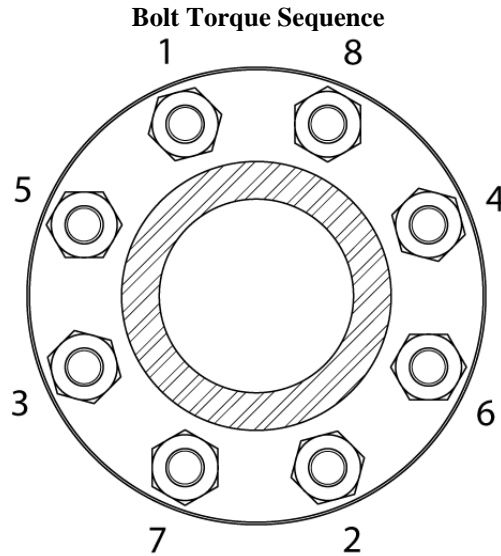

Figure 3
11. Lubricate the threads on the bolts with a high temperature nickel based lubricant. Torque the bolting in the proper sequence (see below in Figure 3) to required ft-lbs in 1/3rd increments found in the below chart.